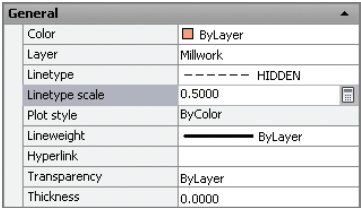

FIGURE 6.22 Adjusting the Linetype Scale property
9. Change Linetype Scale to **0.5** in the General section of the Properties panel (see Figure 6.22).